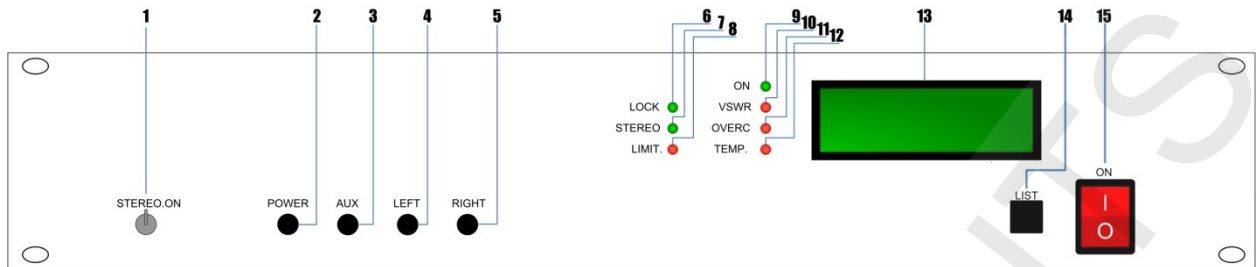

Figure 2.1 Front view:
- 4. Protection and control block.** This block is implemented with *Atmel ATmega128* microcontroller and is suited for controlling EX-FM-35. All information about main EX-FM-35 parameters (such as Left&Right signal levels, power supply voltage and current, forwarded and reflected waves power) CPU visualize on LCD display(13 in **Figure 2.1**) . If one or more EX-FM-35 parameters value become critical, then in order to attract user's attention, CPU indicates this with LED indicators on the front panel (6,7,8,9,10,11,12 in **Figure 2.1**). More information about LED indications is given in Appendix 1.
- EX-FM-35 parameters level adjustment is performed by tuning potentiometers (2,3,4,5 in **Figure 2.1**) with screwdriver. More information about tuning parameters is given in section 5.